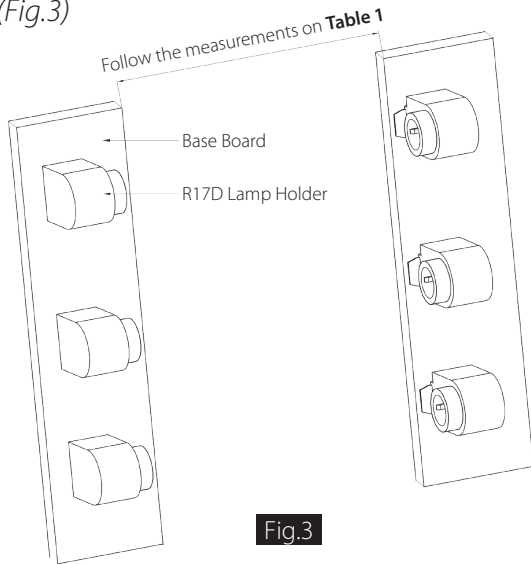

Fig.3
11. Attach the Luminaire Marking Label to the luminaire. Assemble the tubes into the R17D Lamp Holders. (Fig.3)